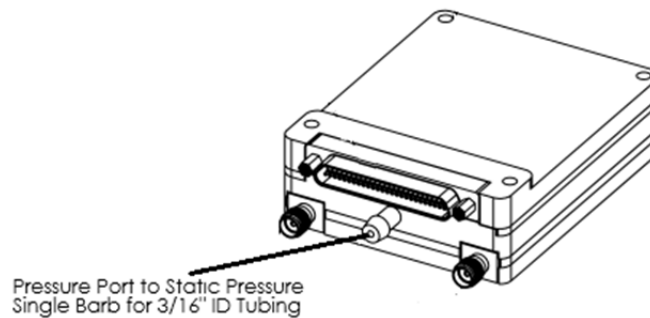

Figure 5-4 Pressure Altitude Encoder Port to Static Pressure
Range Finder has an altitude encoder port. (See Figure 5-4.) Plumb the altitude encoder connection to a static pressure line that shares the same source as the main aircraft altimeter. The pressure barb is sized for 3/16" Internal Diameter (ID) tubing. A typical installation will have a T or Y fitting in the static pressure line with one end running to the Range Finder. Suitable Y-barbed tube fittings are available from suppliers such as McMaster-Carr.